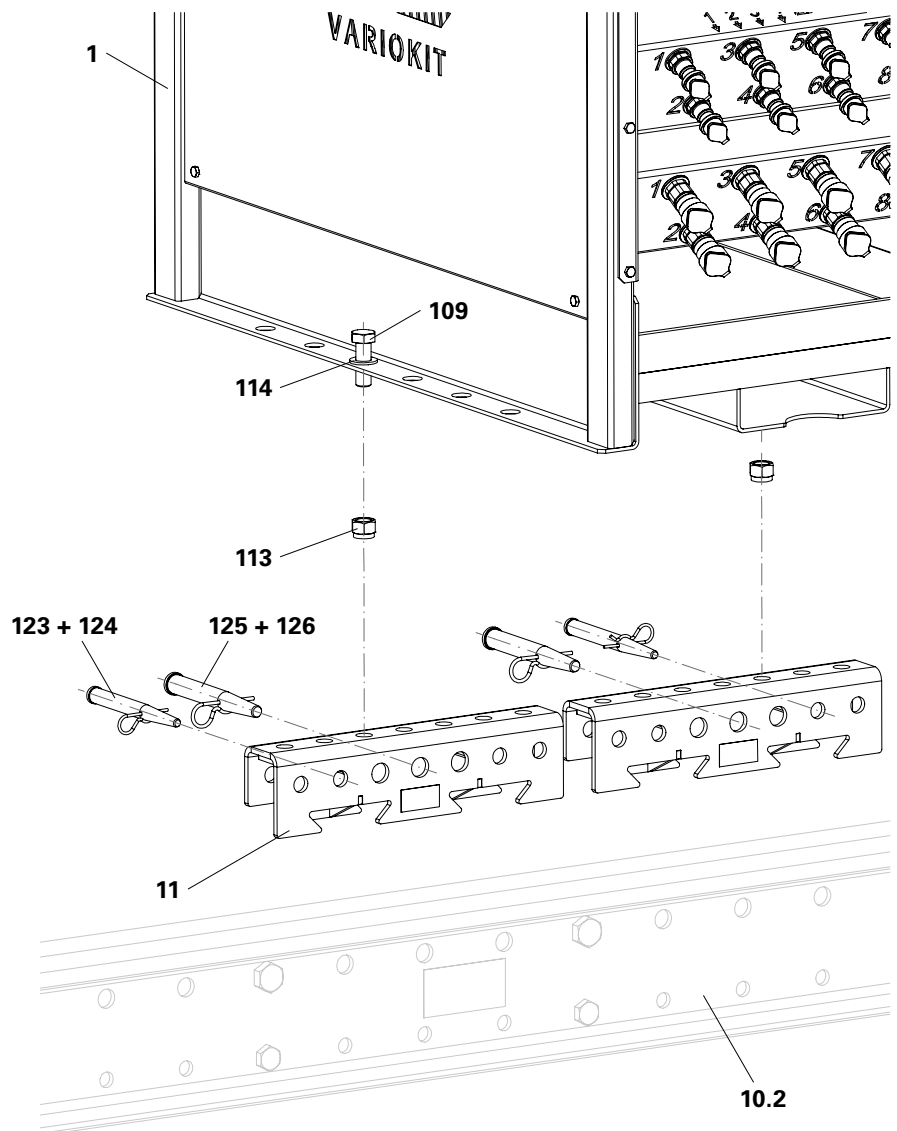

Fig. B3.04
3. Attach the hydraulic pump (1) to the crane lifting gear and fly in.
5. Fix the hydraulic pump to both Multi-Adapters with bolts M20x60 (109), self-securing nuts M20 (113) and washers M20 (114).
6. Remove crane lifting gear. (Fig. B3.04)